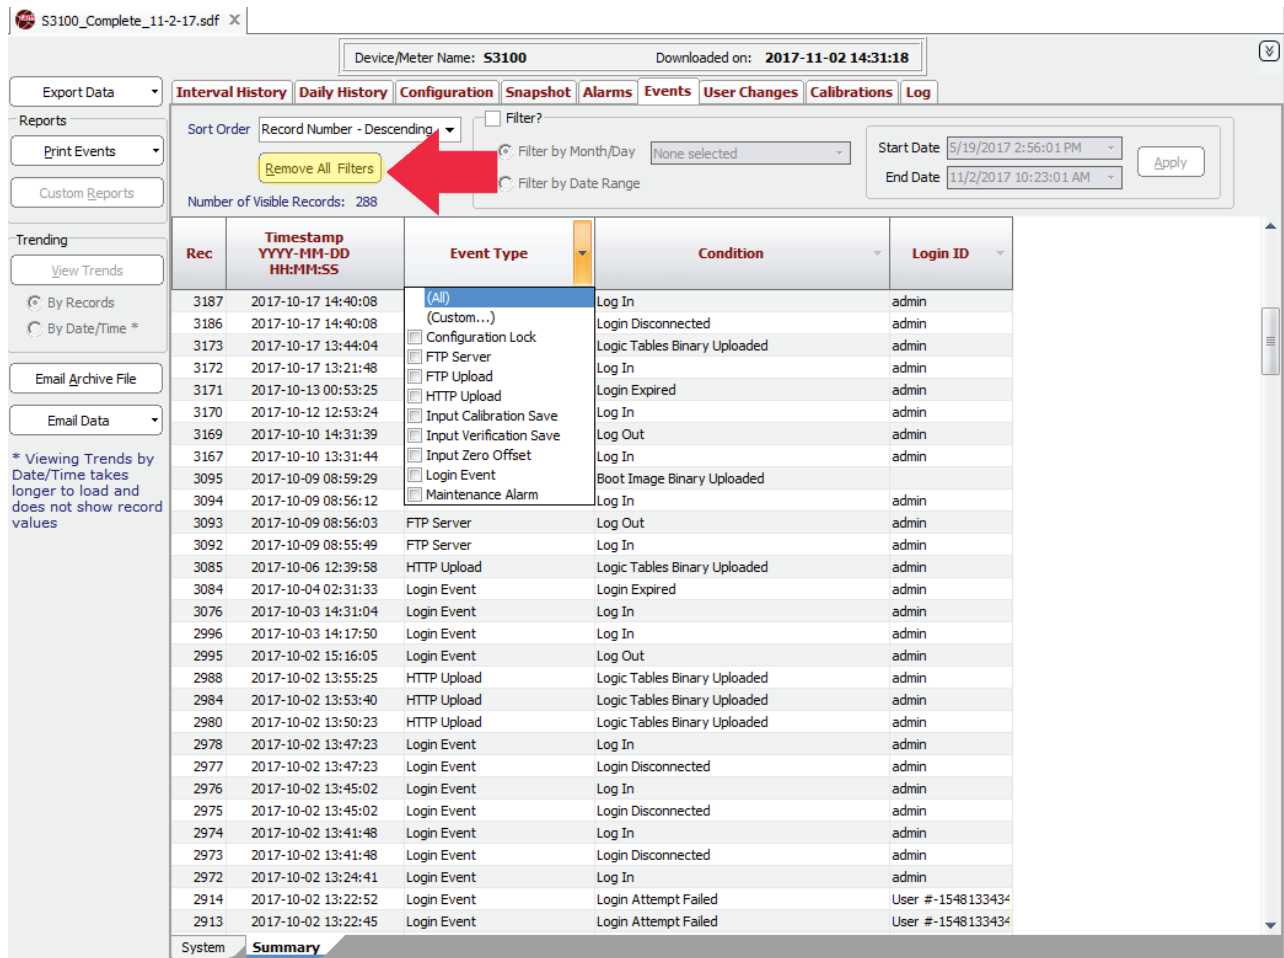

Figure 2.6—Remove All Filters button
To remove alarm, event, and user change data filters, click the **Remove All Filters** button, which is located near the top of the screen when the Events, Alarms, or User Changes tabs are selected (see Figure 2.6, page 15).
- To remove all filters, date filter included, click the **Remove All Filters** button (see Figure 2.6).